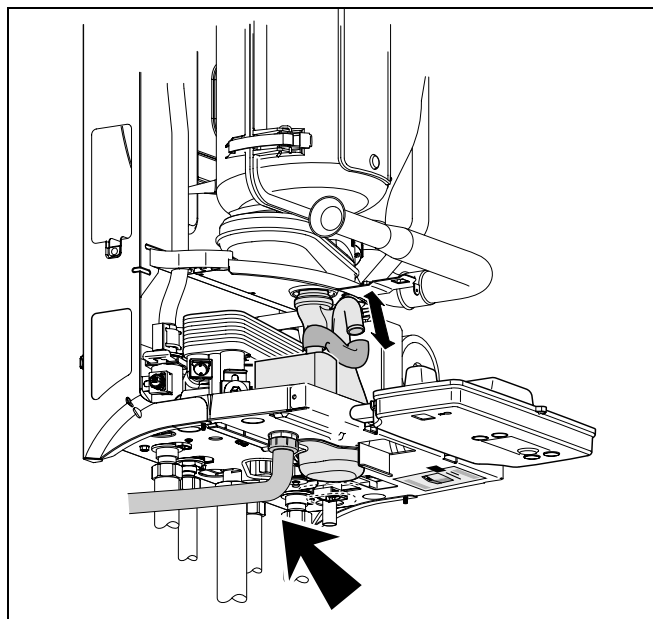
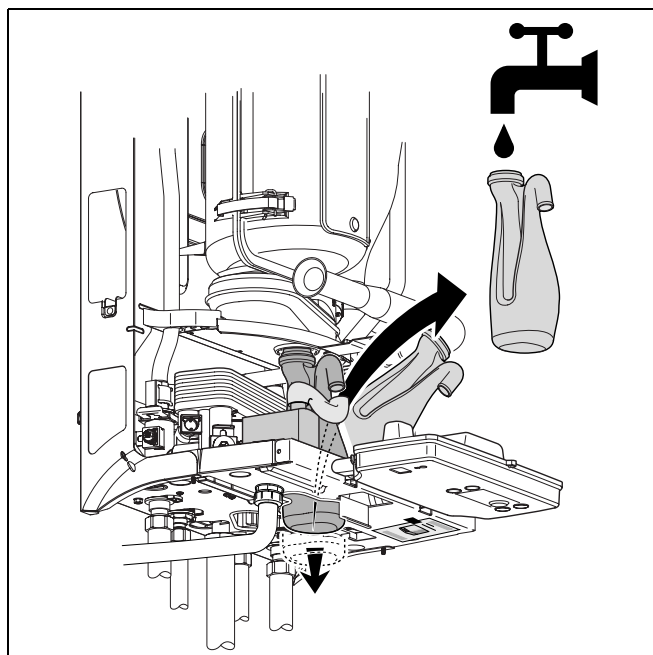

fig. 40 Disconnect hose from condensate trap
fig. 41 Remove the condensate trap and fill with water
- Remove the condensate trap and fill with water (see fig. 40 and fig. 41).